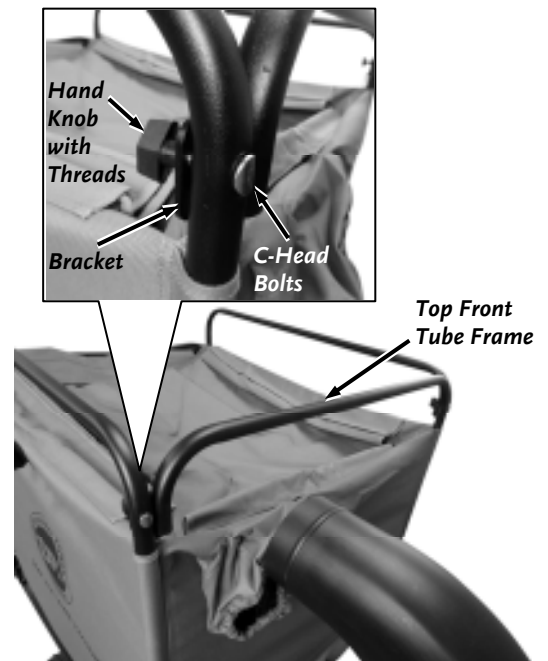

Figure 34
16. Install the top front Tube Frame to the side Tube Frames and secure with two C-Head Bolts and Knobs (**Figure 34**).